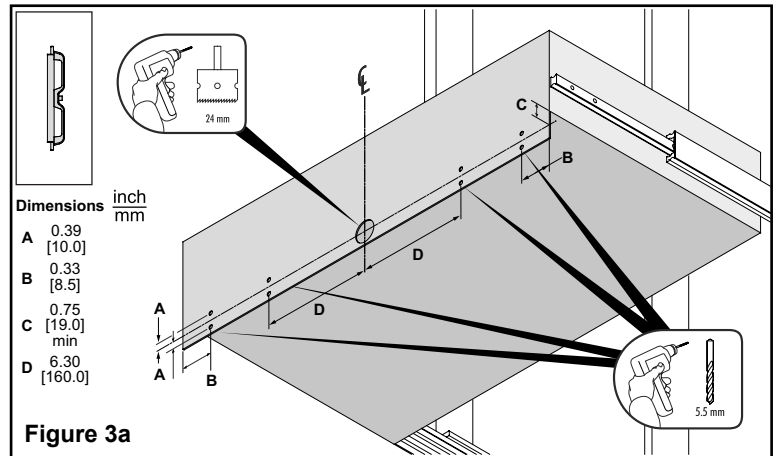

Figure 3a
1. Drill fixing and push-button holes for the handle, mechanism, and bar support blocks (see figure 3a). The material thickness should not be greater than .5" [12mm] or the push button will not operate properly.